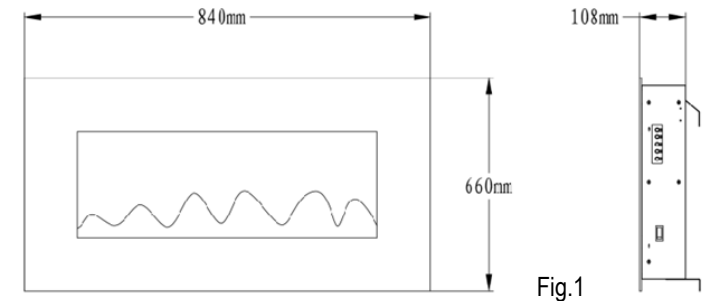

Fig.1
- Choose a wall location to attach the mounting bracket (A) position the mounting bracket (A) in the desired location, using the appliance size (Fig. 1).